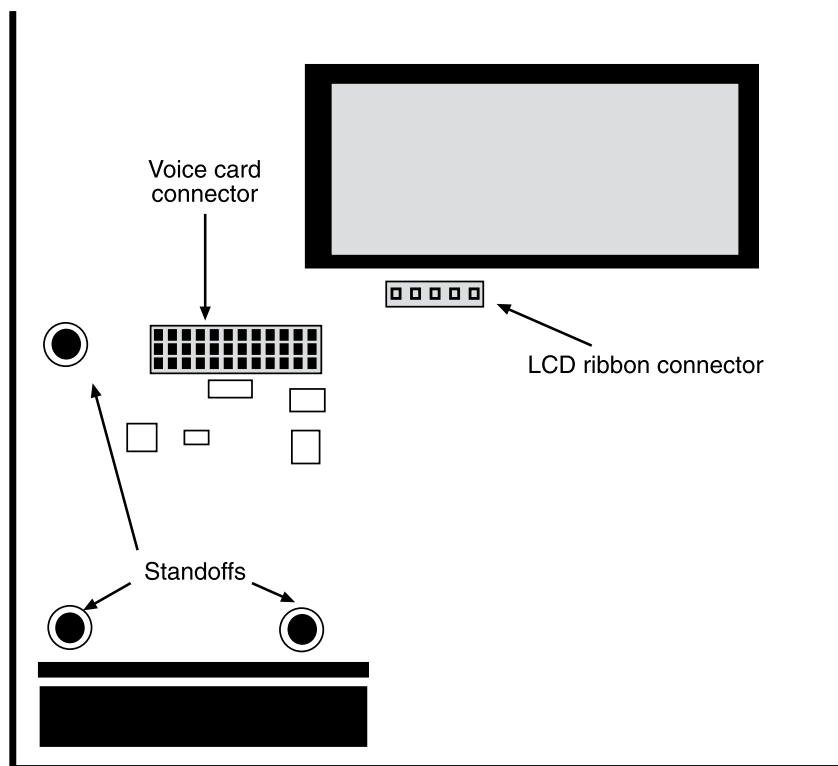

Figure 8: Voice board mounting on the main board
3. The 36-pin voice board connector socket is below and to the left of the LCD window. There are three standoff screw mounting holes in the lower left quadrant of the main board—one for the upper left corner of the voice board, and two for the bottom corners. (See Figure 8)